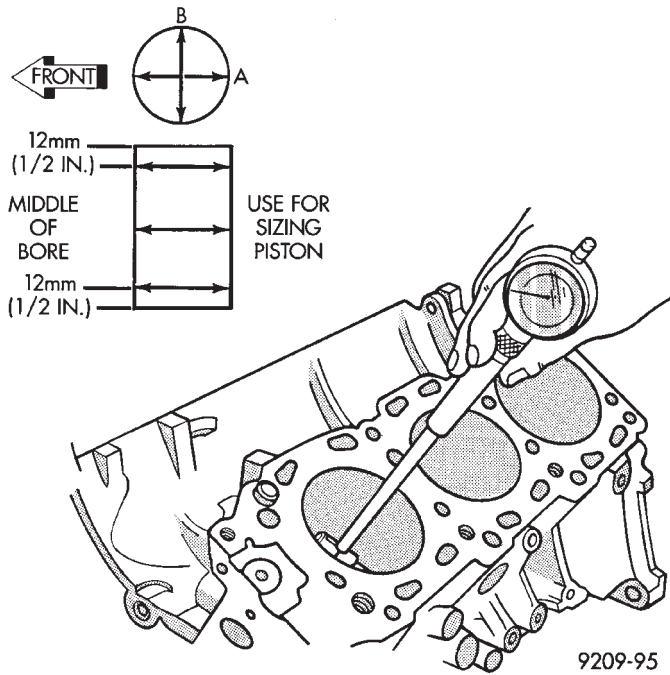

Fig. 5 Checking Cylinder Bore Size
(1) Measure the cylinder bore at three levels in directions A and B (Fig. 5). Top measurement should be 12mm (.50 inch) down and bottom measurement should be 10mm (.38 inch) up.
(2) Standard bore dimension: 91.1mm (3.587 inch)